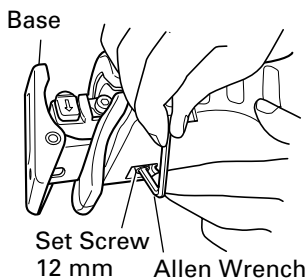
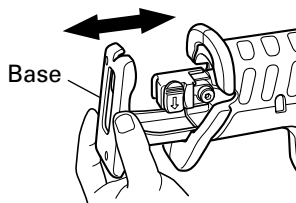

Fig. 13
Fig. 14
(2) If a base setting screw is loosened with an attached allen wrench, you can adjust a base installing position. (Fig. 13, Fig. 14)